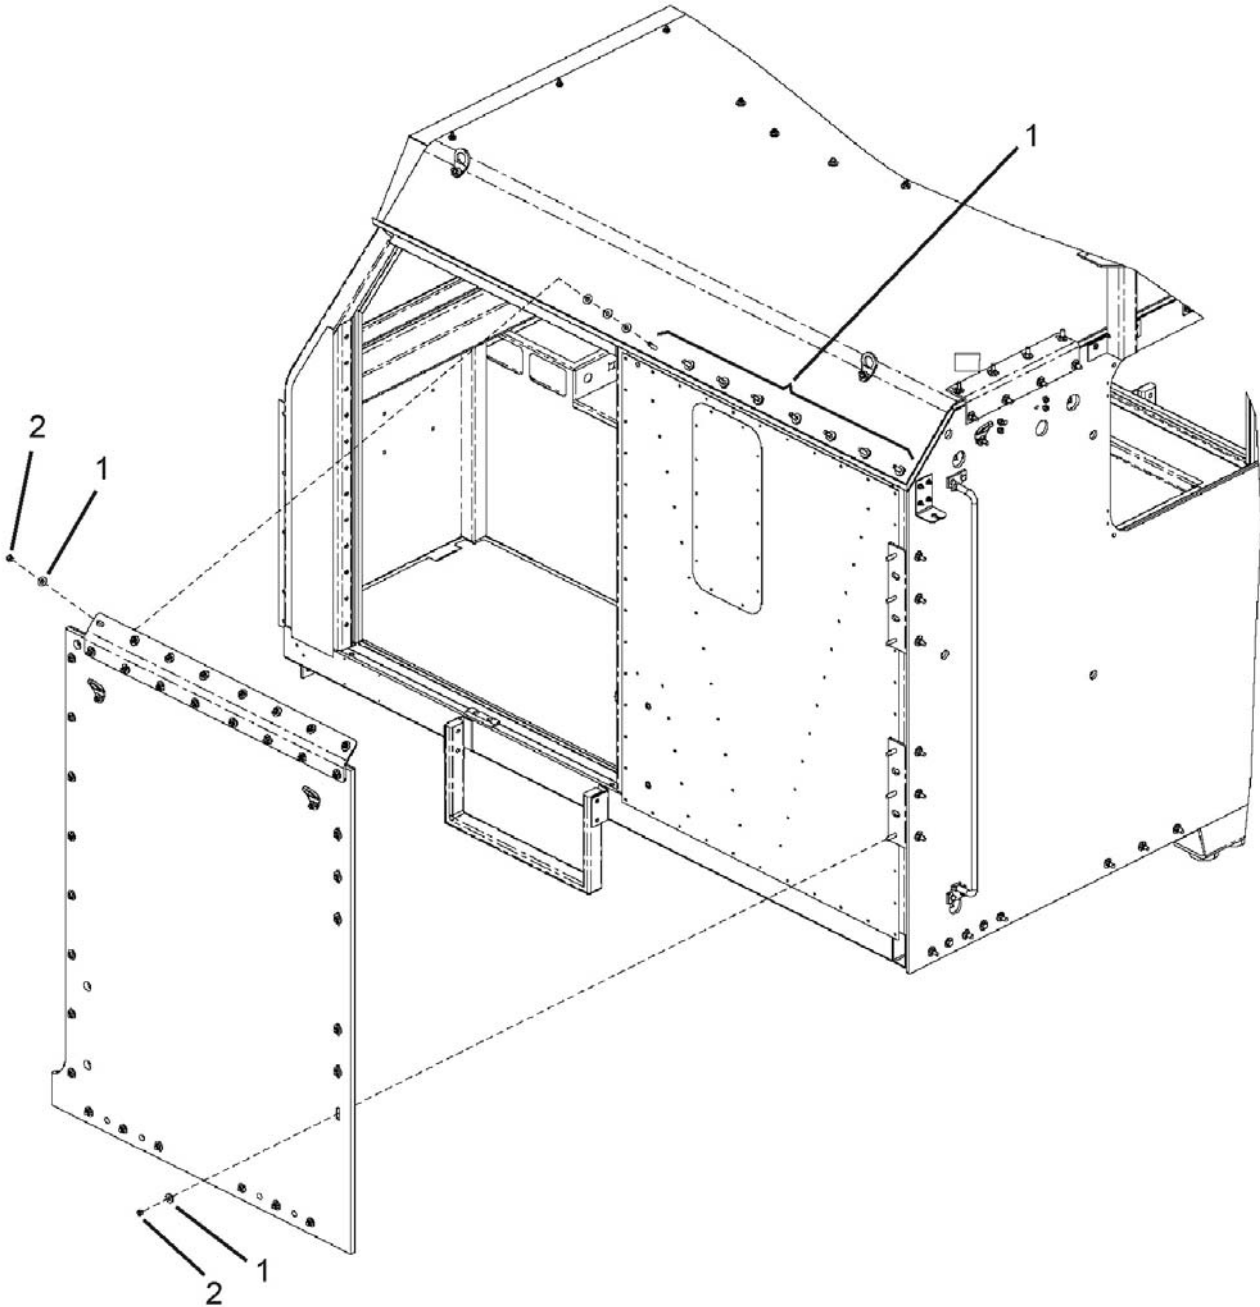

Figure 3-20. Left Aft Side Panel Assembly Installation.
3. Install left aft side panel assembly as follows (see Figure 3-20):